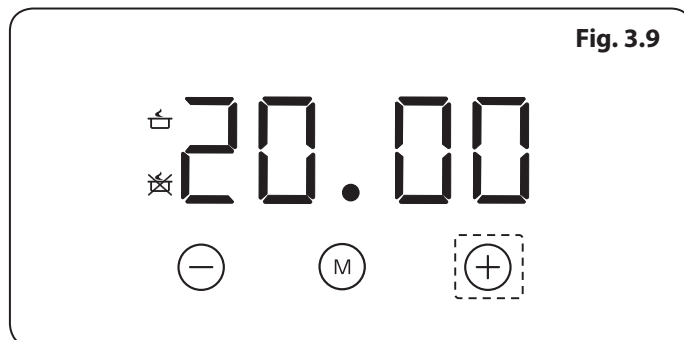

Fig. 3.9
- Then touch '-' or '+' to select the required **end of cooking time**. When the correct time shows on the display, wait for approximately five seconds. The **cooking time** and **end of cooking time** indicators will remain lit to confirm the automatic programme is on (**Fig. 3.9**).